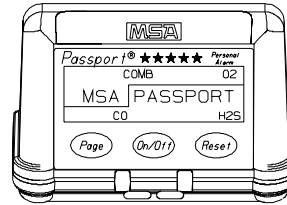

Figure 1-8. Gases Measured
- Display flashes the sensors that the instrument recognizes (FIGURE 1-8).
- The screen automatically scrolls from gas to gas in five-second intervals (FIGURES 1-8 through 1-10).